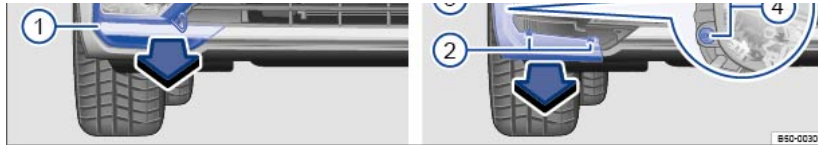

Fig. 206 In the front R-Line bumper, right-hand side: remove the fog light.
3. Hook the wire hook into the opening on the cover under the fog light ⇒ Fig. 206 [A]. Pull the cover forwards in the direction of the arrow ⇒ Fig. 206 ① [A].
4. Unscrew the two securing screws ② [B] in the trim panel ③ [B] with the screwdriver.
5. Unclip the trim panel ③ [B] and remove in the direction of the arrow.
6. Unscrew the two securing screws in the fog light ④ [B] (close-up) with the screwdriver.